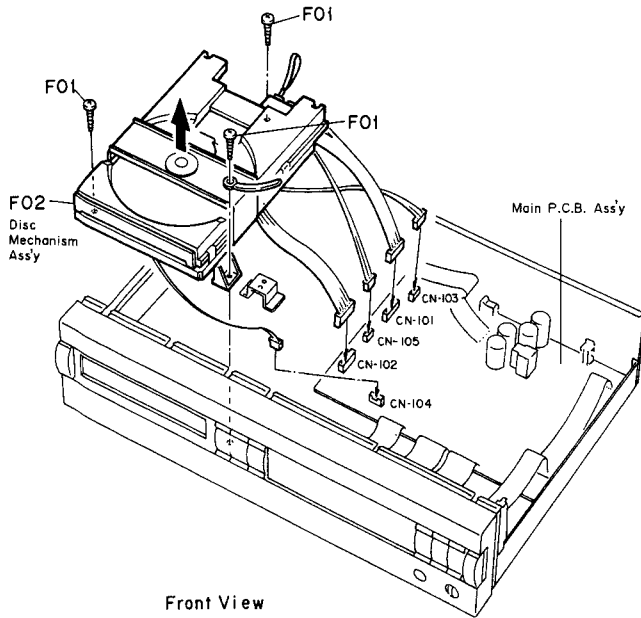

Fig. 2.4.2
- (4) Loosen screws F01 (3 pcs.), disconnect connectors from the Main P.C.B. Ass'y, and remove F02 (Disc Mechanism Ass'y). See Fig. 2.4.2.
- (3) Install the Disc Mechanism Ass'y with three screws and connect all connectors to the Main P.C.B. Ass'y. See Fig. 2.4.2.